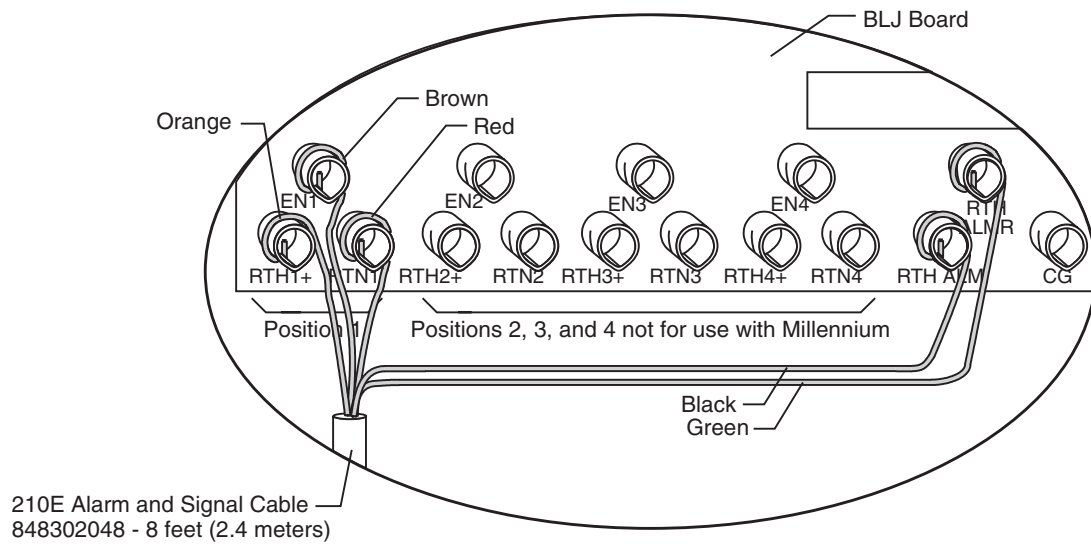

Figure 4-5: Alarm/Signal Cable Assembly Connections to Millennium BLJ Board
2. Connect the 848302048 Alarm/Signal Cable Assembly from J1 and J4 of the second 210E to the BLJ terminal board as shown in Figure 4-5.